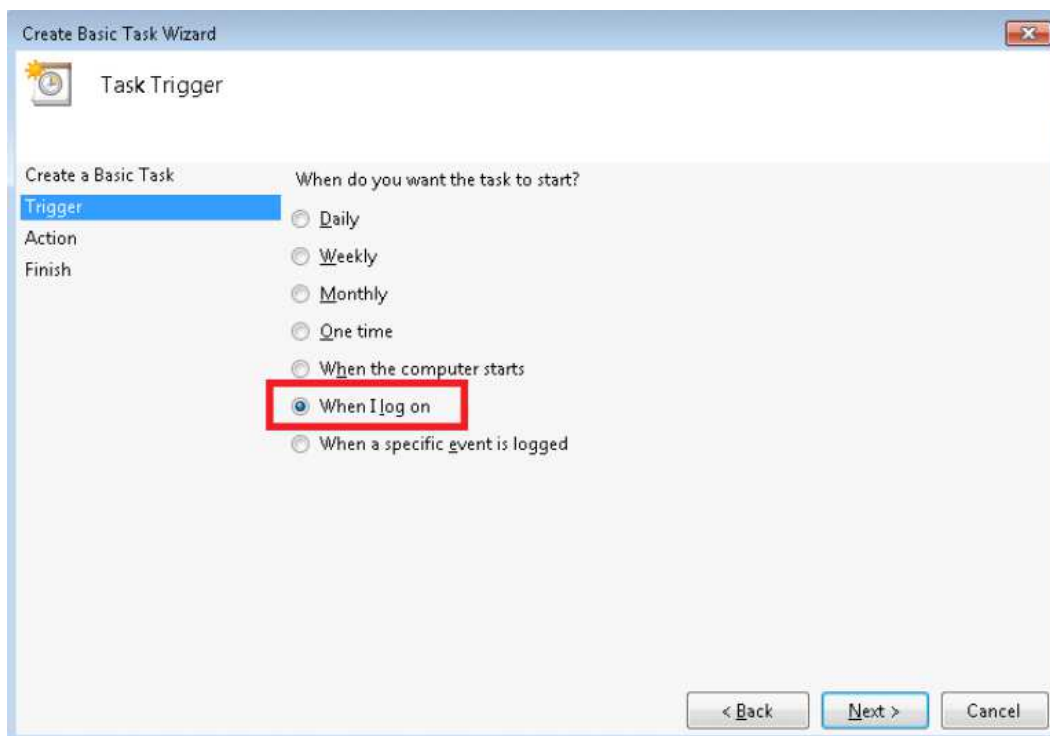

Fig. C.35: Task Trigger window
STEP 4 – In *Create Basic Task Wizard* window please choose *When I log on* option in the *Trigger Task* panel and then click *Next* (Fig. C.35).